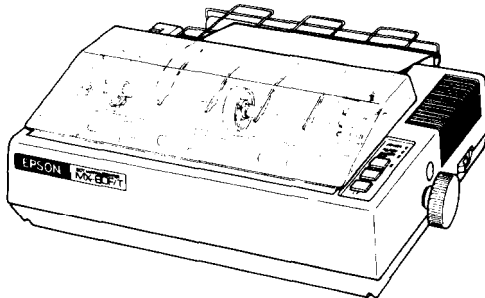

Fig. 45 Printer with Cut Paper Sheet Set Completely
STEP 8. Push the scale back into position and put the printer lid on the Printer. (See Fig. 45.)